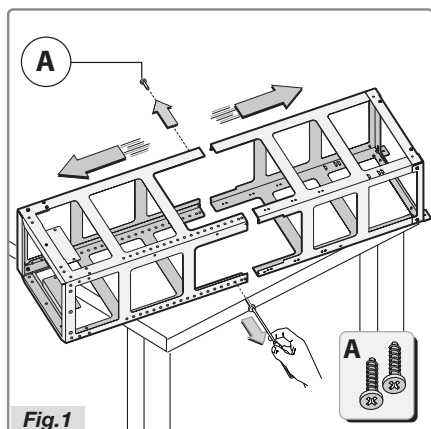

Fig.1
To replace a halogen bulb **B**, press the glass cover **C** as shown in figure 1
- Unpack the structure and remove the two screws **A** to separate the top part from the bottom one (Fig.1).